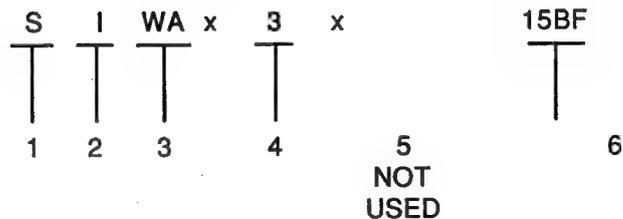

Figure 6-1 Typical Codes for Attaching Hardware
- **Part Number** Provides the NEC part number for ordering spare or replacement parts. Attaching hardware, such as screws, nuts, and washers, are described with six codes as shown in Figure 6-1. The screw in Figure 6-1 is a galvanized pan-head metric screw with cross groove, where nominal diameter is 3 mm and length is 6 mm. The codes are described in Table 6-6.